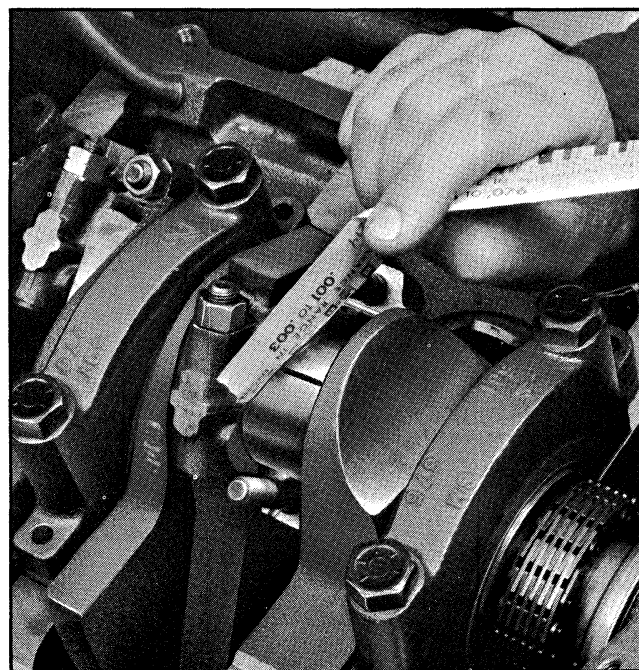

Fig. 6-139 Measuring Plastigage
3. Remove bearing cap and using Plastigage scale on envelope measure width of compressed Plastigage before removing it from the crankpin or bearing (Fig. 6-139). If the bearing clearance is between .0005" and .0025" the clearance is satisfactory. If the clearance is more than .0025" replace the bearing with the next size undersize bearing and recheck clearance. Bearings are available in .001" and .002" undersize.